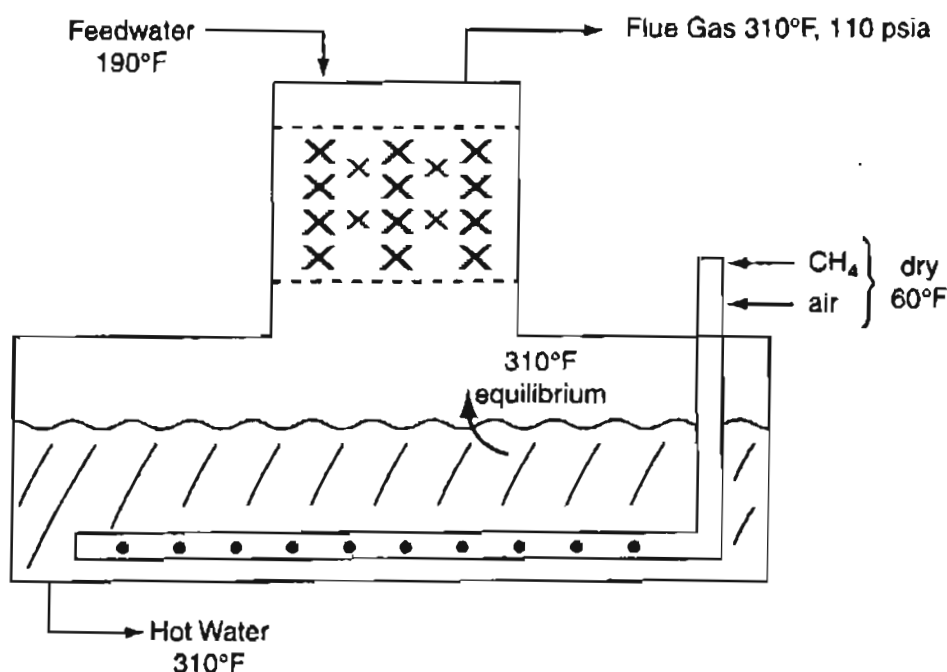

Figure P26.19
****26.19** An old idea now coming into vogue for efficient heat transfer is to operate a submerged combustion burner (see Figure P26.19) to give hot water. The fuel, natural gas, may be assumed to be CH₄ and is burned using 5% excess air. The immersion of the burner is such that the flue gases leave the water in equilibrium with it. The feedwater enters the dehumidifier section at 190°F and the hot water leaves from the bottom of the combustion chamber at 310°F. The CH₄ and air enter dry at 60°F. Calcul-